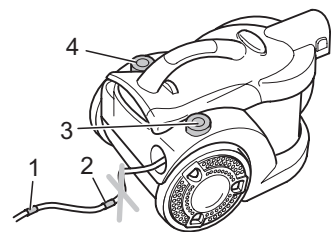

Fig. 9
2. Pull out the cord by the plug up to the yellow mark (Fig. 9/1).
Danger of electric shock! If the red marking (Fig. 9/2) shows, retract the cord by pressing the cord retracting button (Fig. 9/3) to pull in the cord up to the yellow mark again. Otherwise the power cord might break.
4. Switch on the cylinder vacuum cleaner with the on/off switch (Fig. 9/4).